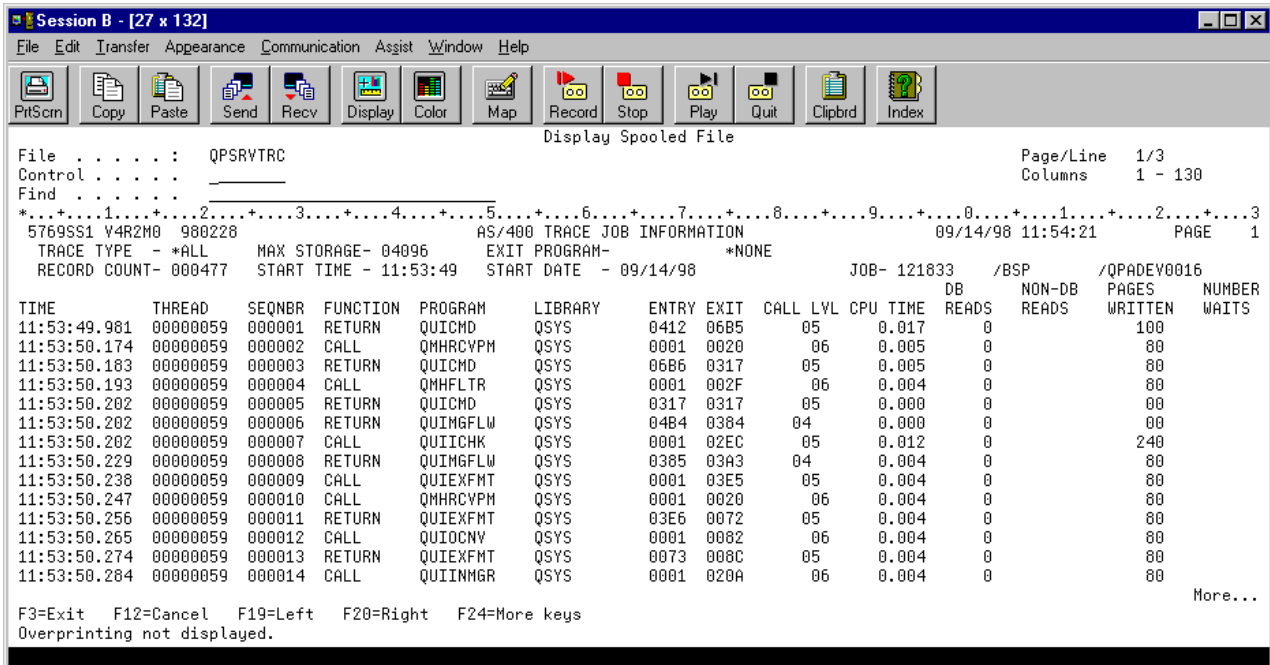

Figure 415. QPSRTRC job trace spooled file display
7. When done, the system creates a spooled file called QPSRVTRC with detailed information regarding job activity during the trace time. You may need someone familiar with viewing these files to determine what looks normal. Figure 415 shows an example of the information you may see.